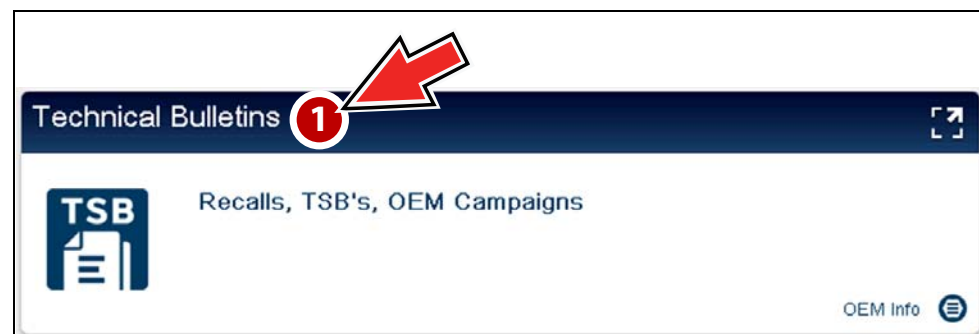

Figure 5-4
- A red icon (*Figure 5-4*) indicates the total number of Recalls, TSBs, and OEM Campaigns that have been found.